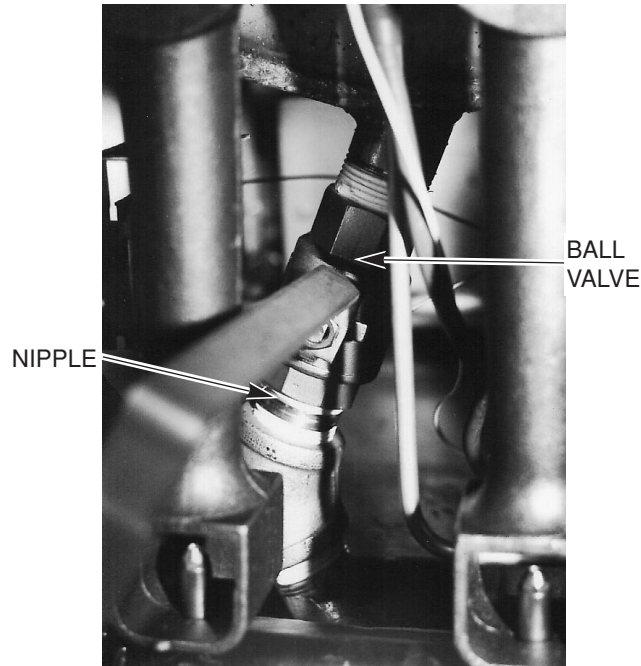

Fig. 61
4. With a pipe wrench remove nipple. (Fig. 61)
5. With pipe wrench remove the ball valve. (Fig 61)